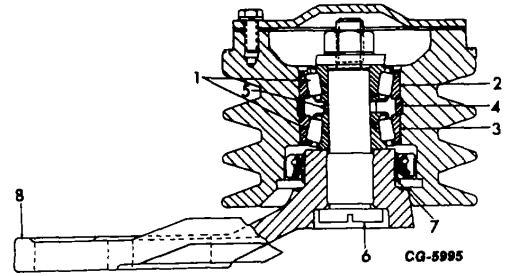

Figure 29. - Fan Idler Pulley Assembly
Inspect and Repair the Fan Idler Pulley with Front and Rear Roller Bearing as follows: (Fig. 29)
1. Visually inspect the bearing cones (1, Fig. 29) for binding, roughness, overheating or other damage. If the cones require replacement it is necessary to also replace the bearing cups (2 and 3) and spacers (4 and 5).
2. Visually inspect the bearing cups (2 and 3) inside of the pulley hub for roughness, overheating or other physical damage. If the cups require replacement, replace the cones (1) and spacers (4 and 5) also.
3. Using a slide hammer with proper expander, remove bearing cups from pulley hub. Remove spacer (4) from groove in pulley hub. Check bearing bore of hub for wear or damage. Replace hub if necessary.
4. Check pulley shaft (6) for cracks or thread damage. If necessary to replace, cut it out of the bracket (8). DO NOT damage the bracket.